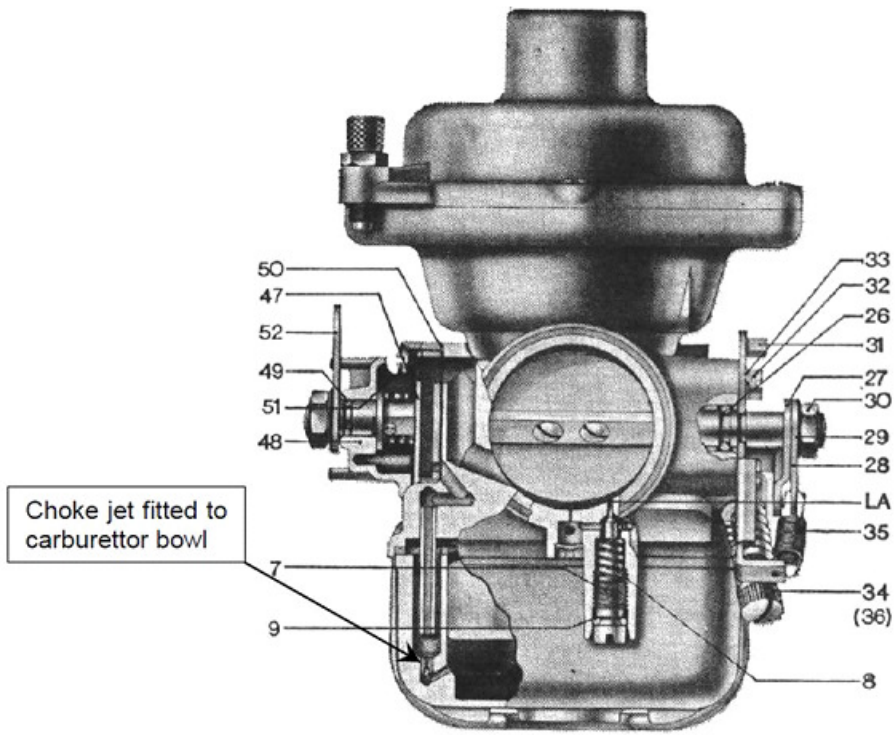

Figure 1 – Choke Schematic
14. **Choke Jet.** The choke jet needs to have a bore of about 1.2mm. This gives the engine more fuel when the choke is applied, making it easier to start. New engines and aircraft have been set at this size since around February 2011, however older units will need to be checked and, if necessary, enlarged. See Figure 1.